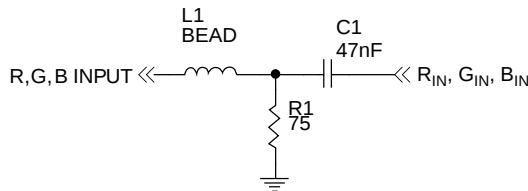

Figure 31. RGB Input Filter
5. If necessary, limit bandwidth by adding a ferrite bead in series with each RGB input as shown in Figure 31. A Fair-Rite #2508051217Z0 is recommended. Mismatches, reflections and noise may cause ringing or distortion of the incoming video signals.